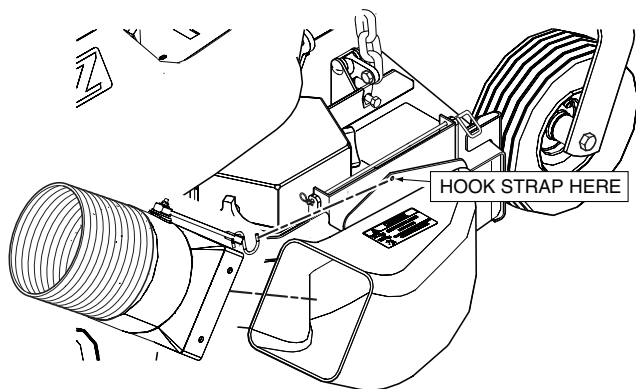

Figure 2-20. Hose and Adapter to Chute Installation
- Install the hose and adapter assembly to the discharge boot assembly installed on the cutter deck. Secure with the rubber strap. See Figure 2-20.